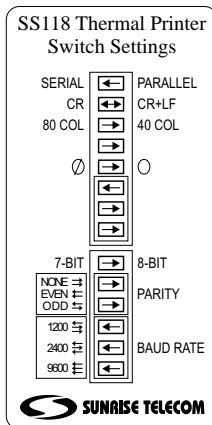

Figure 13 Switch Settings for SS118 Printer
3. Confirm that the SunSet T10's serial port settings match those of the printer. Refer to the instructions that came with the printer on how to check or change the switch settings. If using the Sunrise Telecom thermal printer, refer to Table 1 for the correct switch settings. If using the SS118 printer, refer to Figure 13.